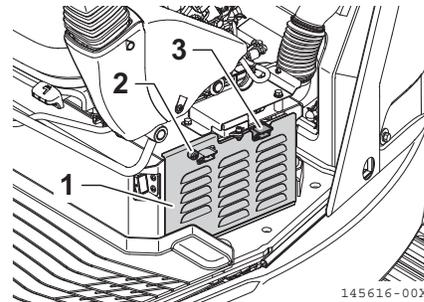

Fig. 8-39
1. Loosen the knob (Fig. 8-39, 2) of the air circulation filter cover (Fig. 8-39, 1) located under the left implement control lever to remove the air circulation filter cover (Fig. 8-39, 1).
2. Open the clip (Fig. 8-39, 3) of the air circulation filter to remove the air circulation filter.